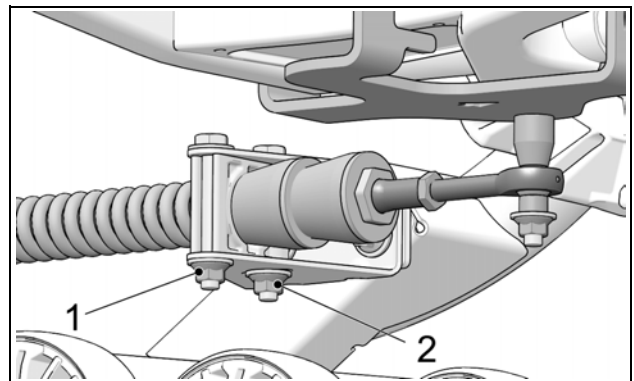

Figure 20
- Re-tighten anti-rotation bracket nuts (1) and (2) to 50 N•m [37 lb-ft] of torque. See Figure 20.